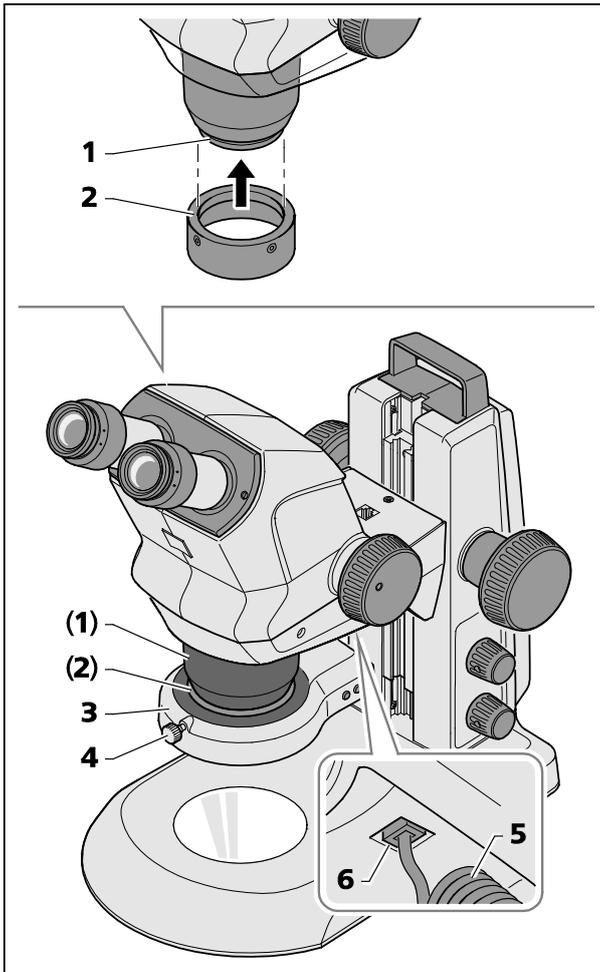

Fig. 9 Mounting ring illuminator
- Push holding ring A53 (Fig. 9/2) from the underside onto the dust protection glass (Fig. 9/1) of the Stemi 508 and secure it by tightening the two retainer screws (hexagon socket, SW 3).
- Insert the connection cable (Fig. 9/5) of the ring illuminator (Fig. 9/3) into the lower socket (Fig. 9/6) of the Stemi mount and into the socket of the ring illuminator.
- Push ring illuminator onto the retainer ring A53 (Fig. 9/2) from below and secure using the knurled screw (Fig. 9/4).
- Then push the ring illuminator including the adapter up on the front optics and fix it with the clamping screw (see Fig. 9).